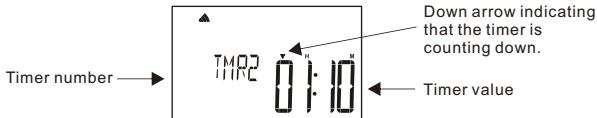

Fig.5 – An example of timer 2
- **Run the timer:** To confirm and run the timer, press START/STOP button. A down arrow (Fig.5) shown on screen indicates that the timer is counting down (for count-up timer, an up arrow is shown on the screen
- **Alarm in timer:** The thermometer (i.e. transmitter and receiver) will alarm, the backlight will be on (alarm and flashing for 30 seconds) and the timer will start to count up (the down arrow in Fig.5 will change to an up arrow instead) once the timer has completed. Note: The thermometer will keep alarming (5 seconds) and the backlight will keep flashing (5 seconds) every minute.